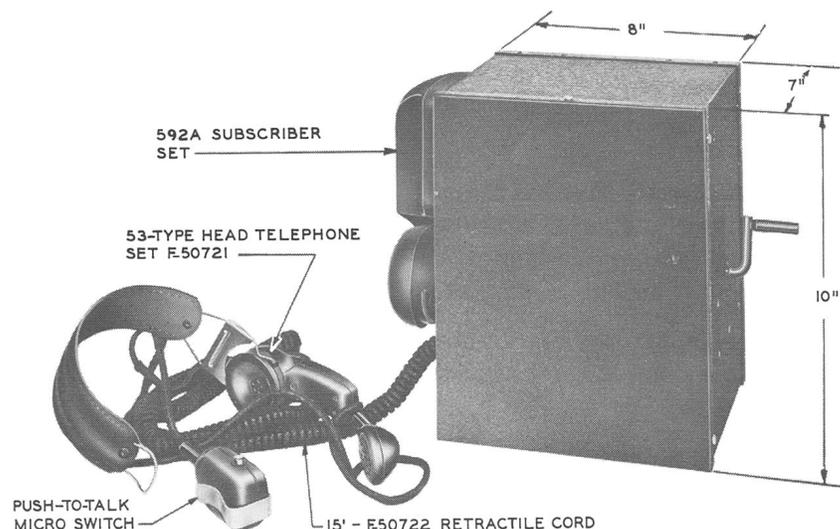

Fig. 1 — F-50682 Telephone Set
**2.01** This set is used by ground observer posts for transmitting calls over private line facilities to the Air Force Filter Centers (see Fig. 1). It consists essentially of an 8- by 10- by 7-inch black finished, metal box in which is mounted a KS-13766 hand generator having a crank shaft which projects through the right side of the box; a 274L and a 274AJ retardation coil; a 181B induction coil; a 3B varistor; an F-50917, a 511D, and a 5BA capacitor; and two 10-141 Jones terminal strips.